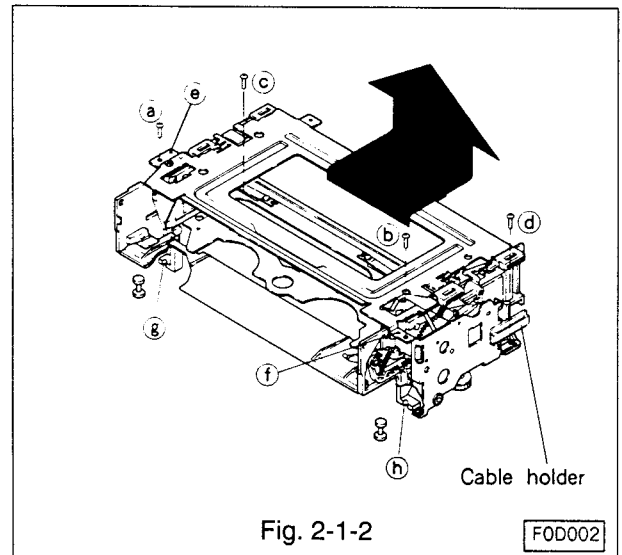

Fig. 2-1-2
- Unscrew four cassette housing fastening screws [(a),(b),(c) and (d)]. Raise the cassette housing slowly in the direction shown by the arrow.(Refer to Fig. 2-1-2.)
- Fasten the housing to the deck with the four screws[(a),(b),(c) and (d)].(Refer to Fig. 2-1-2.)